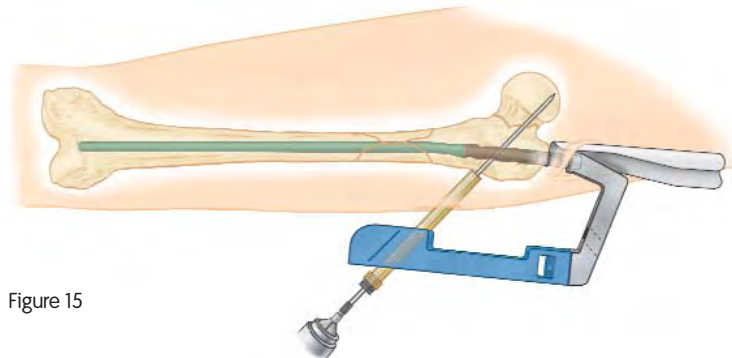

Figure 15
Two aspects of screw placement into the femoral head must be noted before drilling: (1) Alignment of the anteversion and (2) depth of nail insertion. To begin, rotate the C-Arm proximally until a true line of the hip is visualized. This gives the correct axis of alignment for anteversion. Rotate the handle of the nail guide until it bisects the femoral head in the lateral view. This should assist in setting the correct anteversion position of the screws. Mark this position with a skin marker on the leg parallel to the driving handle. Align a guide pin on top of the inferior gold drill sleeve to make sure the nail is properly counter sunk. The guide pin should be slightly superior to the calcar radiographically (Figure 15).